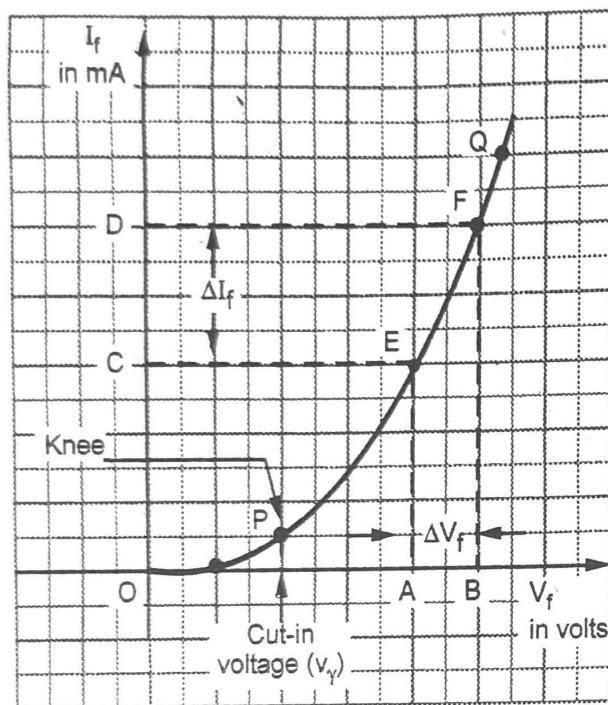

Fig. Q.6.1 Forward characteristics of a diode
- The forward characteristics of a diode is shown in the Fig. Q.6.1.
2. **Region P to Q and onwards** : As V_f increases towards V_y the width of depletion region goes on reducing. When V_f exceeds V_y i.e. cut-in voltage, the depletion region becomes very thin and current I_f increases suddenly. This increase in the current is **exponential** as shown in the Fig. Q.6.1 by the region P to Q.